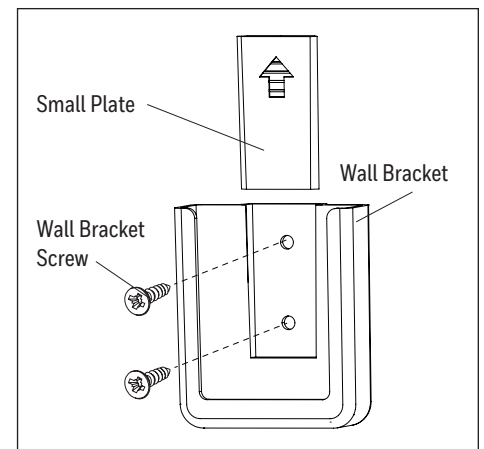

Figure 5.9
9. Remote control comes equipped with a wall bracket. If you wish to install the wall bracket, remove the small plate to expose the screw holes. Insert wall brackets screws through holes and into wall, then cover with the previously removed small plate. The remote can be stored in the wall bracket for easy access (Figure 5.9).